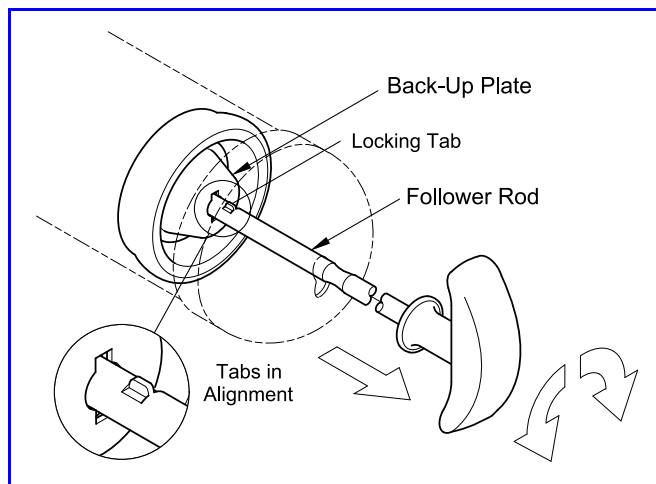

Figure 4 Follower Rod Locking Tabs Aligned with Back-Up Plate
2. Pull the Follower Rod outward from the Cylinder Cap. At the same time, rotate the Rod to allow the Locking Tabs access through the Back-Up Plate. See **Figure 4**.